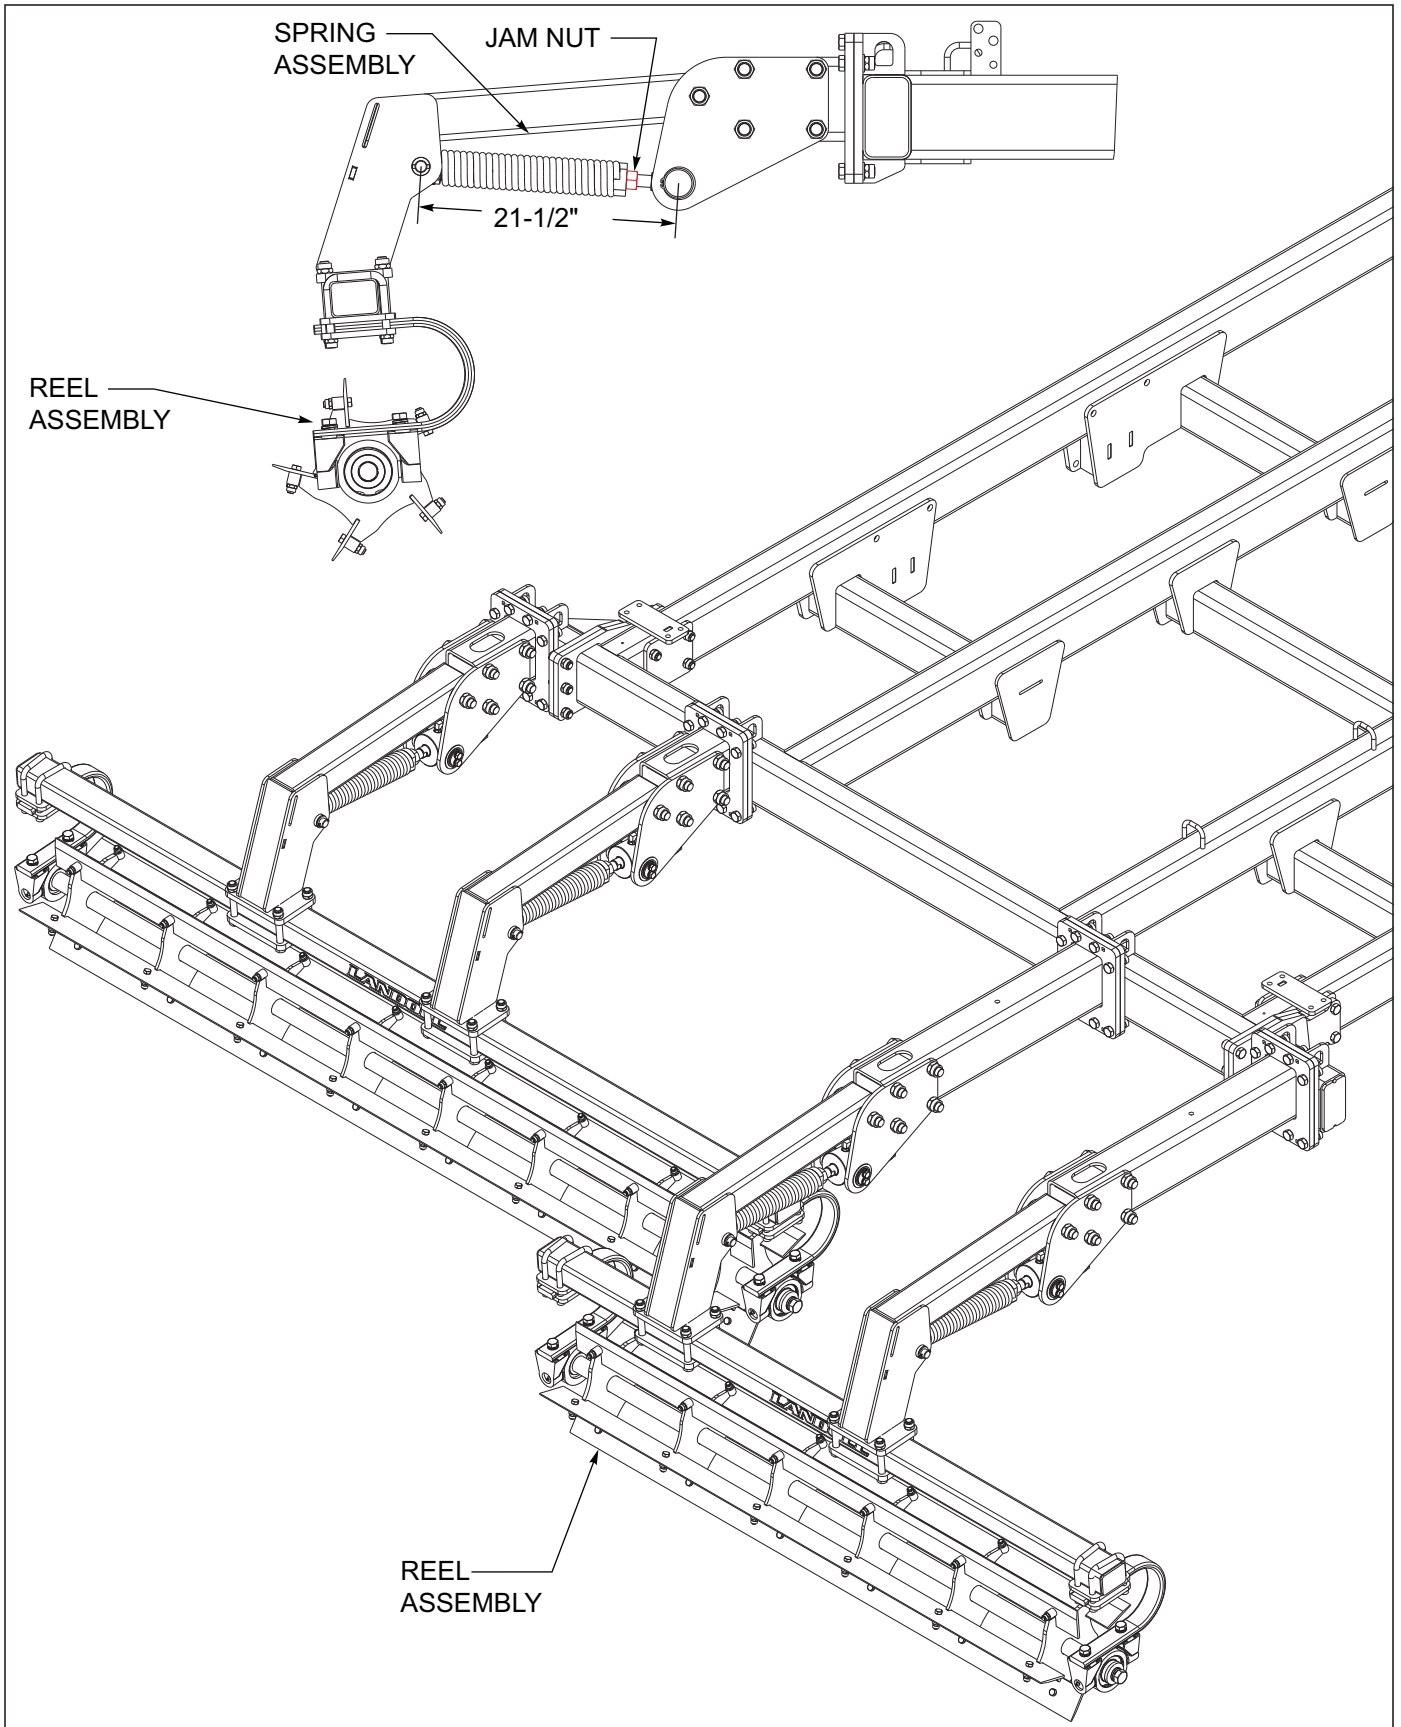

Figure 4-12: Chopper Reel Adjustments
3. Reels are set to 21-1/2" from Landoll. To adjust the reel height, loosen the locking hex nut against the threaded spring end See Figures 4-12.